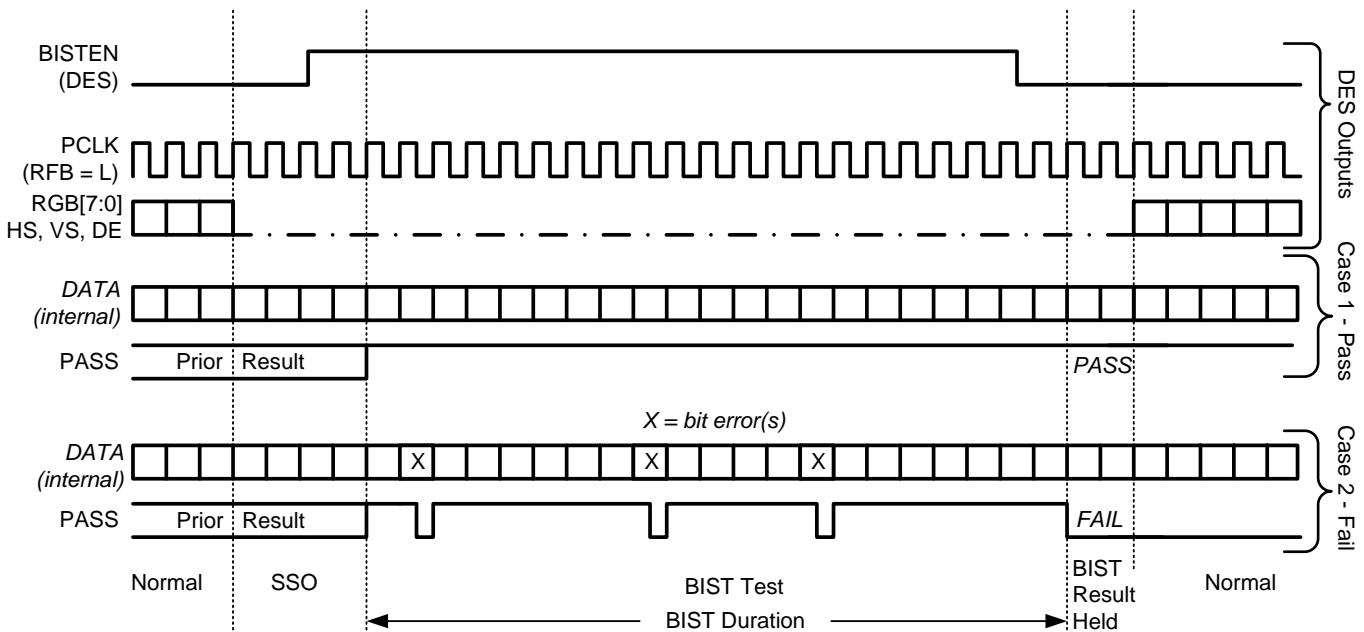

Figure 14. BIST Waveforms
Step 4: The Link returns to normal operation after the deserializer BISTEN pin is low. Figure 14 shows the waveform diagram of a typical BIST test for two cases. Case 1 is error free, and Case 2 shows one with multiple errors. In most cases it is difficult to generate errors due to the robustness of the link (differential data transmission etc.), thus they may be introduced by greatly extending the cable length, faulting the interconnect, reducing signal condition enhancements (Rx Equalization).